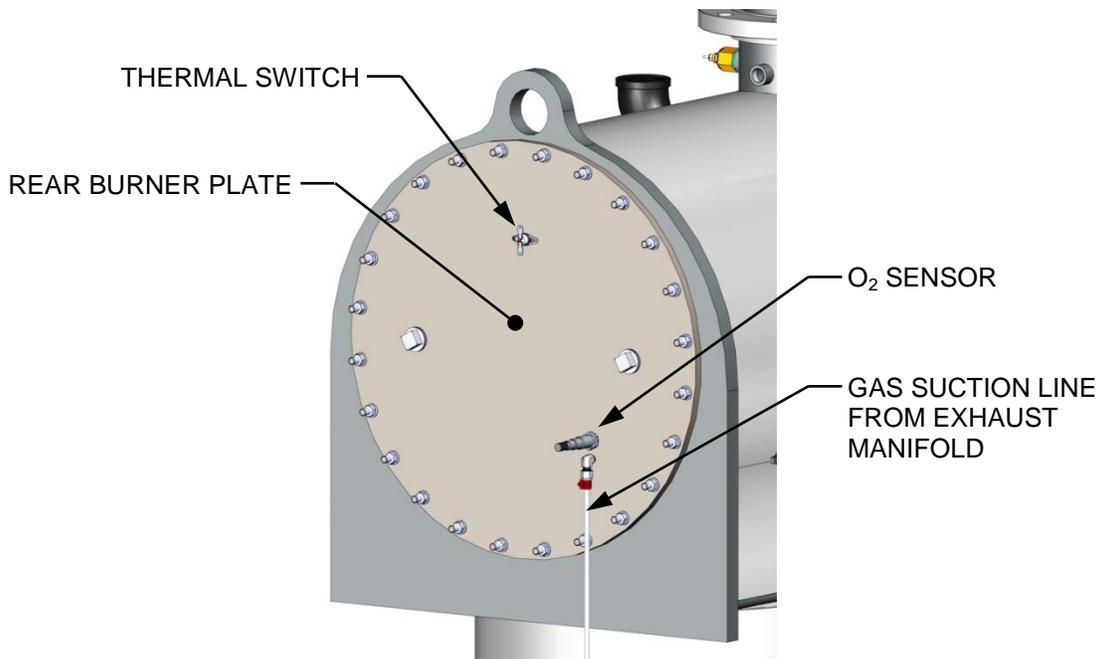

Figure 7-7: Partial Rear View Showing Rear Burner Plate
4. With the panels removed, the rear plate of the combustion chamber can be accessed as shown in Figure 7-7.